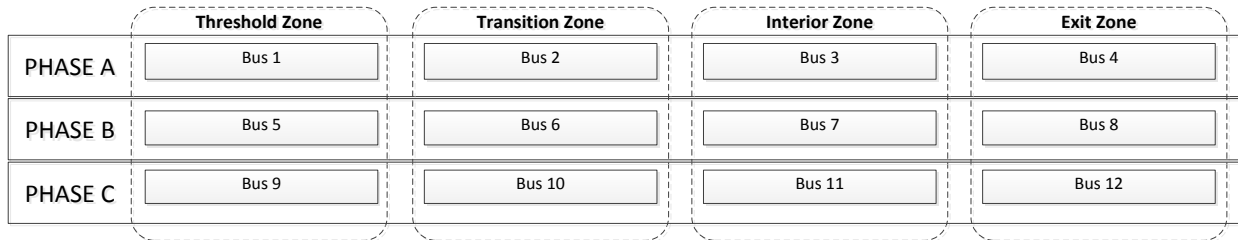

Figure 1: Dual bore, 1 electrical panel
**Figure 1** shows a dual bore (TLACS controls one (1) direction of traffic), with one (1) electrical distribution panel